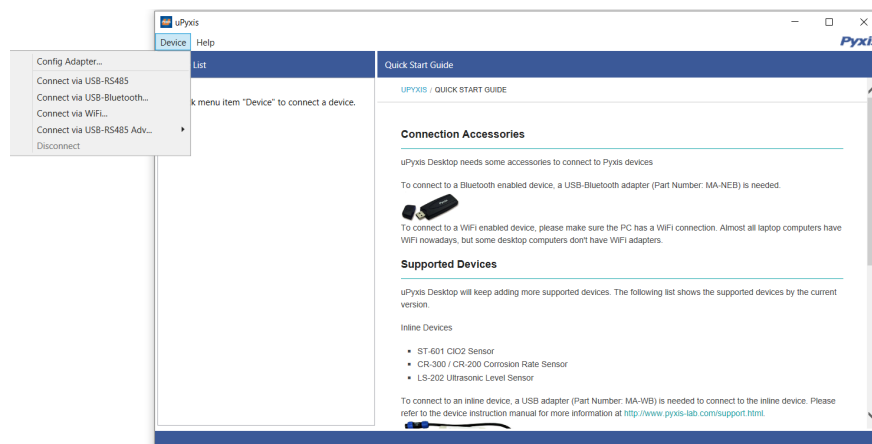

Figure 11.
3. On uPyxis® Desktop App, click Device → **Connect via USB-Bluetooth** (Figure 11).
4. If the connection is successful, the ST-773 and its Serial Number (SN) will be displayed in the left pane of the uPyxis® window.